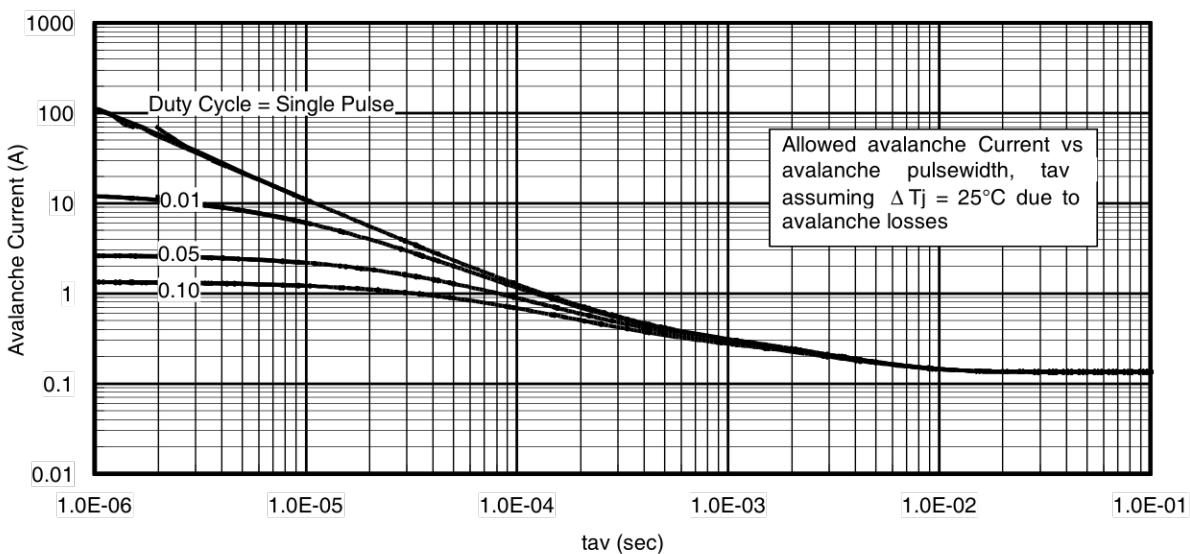

Fig 14. Typical Avalanche Current Vs. Pulsewidth
- ① Repetitive rating; pulse width limited by max. junction temperature.
② Starting $T_J = 25^\circ\text{C}$, $L = 1.62\text{mH}$, $R_G = 25\Omega$, $I_{\text{AS}} = 11\text{A}$.
③ Pulse width $\leq 400\mu\text{s}$; duty cycle $\leq 2\%$.
④ R_θ is measured at T_J of approximately 90°C .
⑤ Limited by $T_{j\text{max}}$. See Figs. 14, 15, 17a, 17b for repetitive avalanche information.
**Notes on Repetitive Avalanche Curves , Figures 14, 15:
7. ΔT = Allowable rise in junction temperature, not to exceed T_{jmax} (assumed as 25°C in Figure 14, 15).